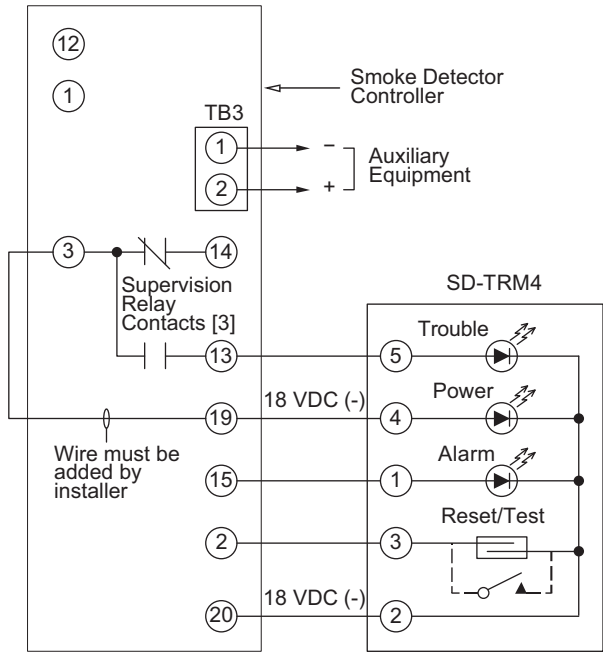

Fig. 44 — Remote Test/Reset Station Connections
The test/reset station dirty sensor test checks the test/reset station’s ability to initiate a sensor dirty test and indicate the results. It must be wired to the controller as shown in Fig. 44 and configured to operate the controller’s supervision relay. For more information, see “Dirty Sensor Test” on page 31.
1. Verify that the remote test/station is wired as shown in Fig. 44. Repair or replace loose or missing wiring.